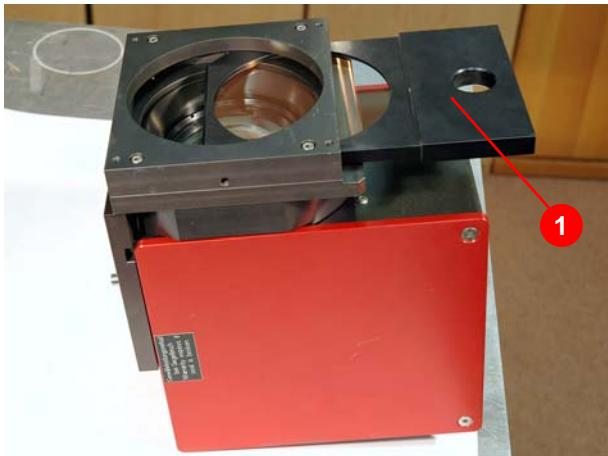

Figure 7.4 Removing the protective glass
6. Remove the protective glass (1) (Figure 7.4).